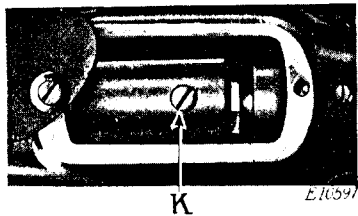

Fig. 3. Oil Reservoir on Arm Shaft
2. Remove the screw plug (K, Fig. 3) which is located in the revolving oil reservoir in the arm of the machine and completely fill the reservoir, then replace the screw plug (K) tightly.